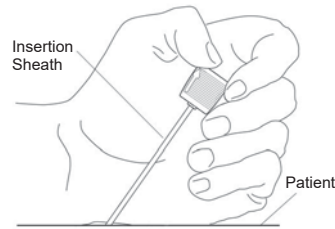

Fig. 5
b) if necessary, rotate the insertion sheath so that the reference indicator on the insertion sheath cap is facing up (Figure 5).